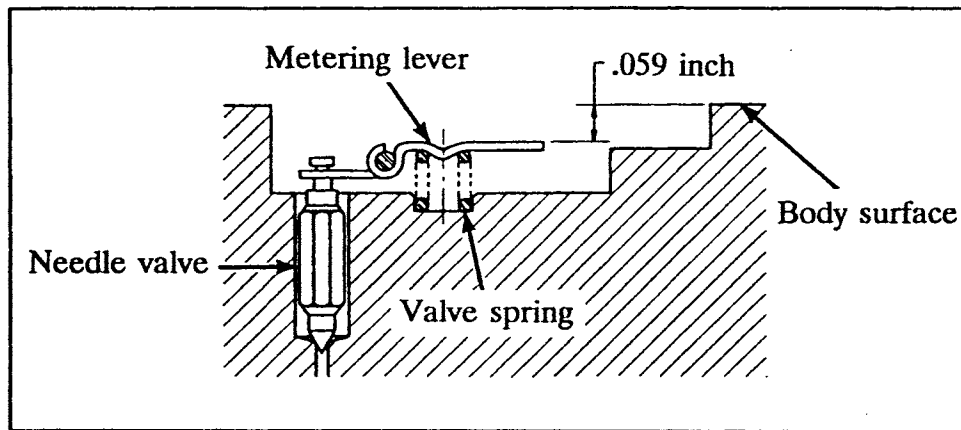

Figure 31
2. Maintenance requirements, See Figure 31, page 60